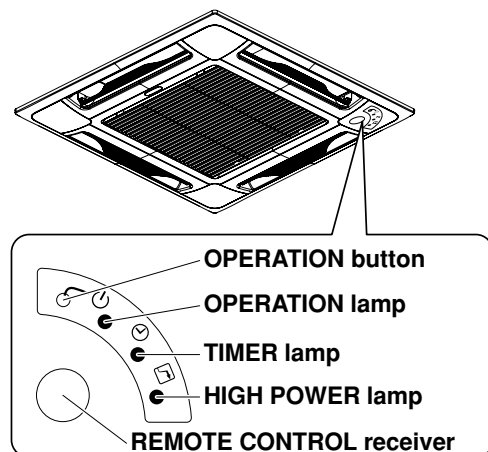

Fig. 35
- This starts the fan producing uncooled forced air with the 3 indicator lamps (OPERATION lamp, TIMER lamp, and HIGH POWER lamp) on the main unit blinking. (Fig. 35)